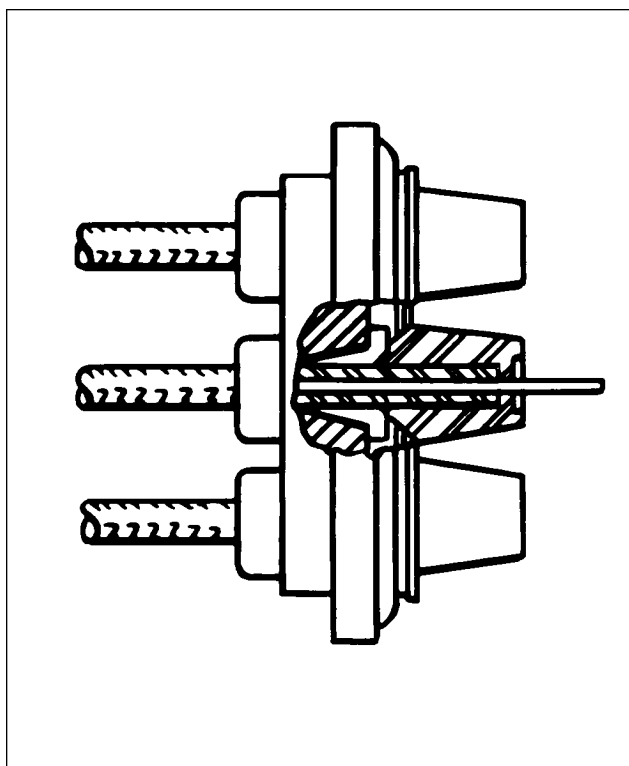
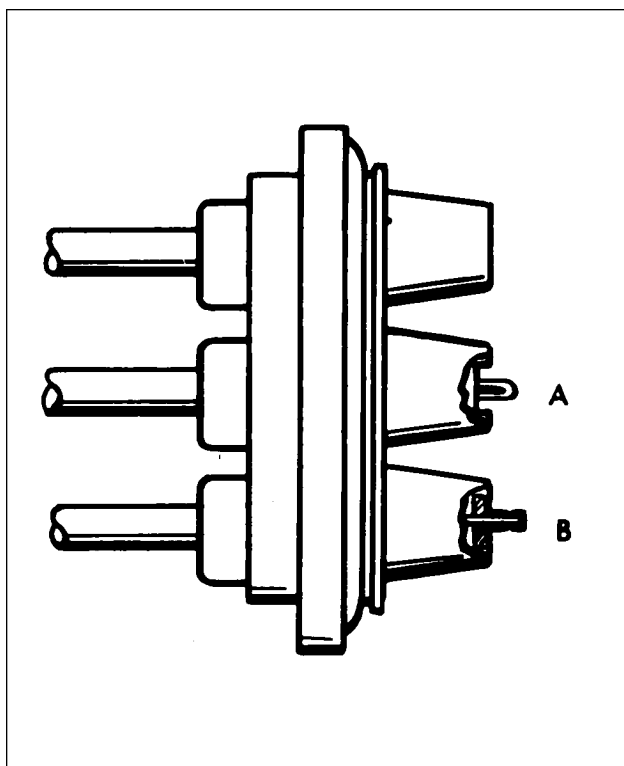

Figure 74-19. Lead Assembly Installed in Grommet
Figure 74-20. Wire Doubled Over For Installation of Eyelet
- O. Cut the wire 3/8 inch from the top of the grommet outlet. (See Figure 74-19.) Double the wire over as shown in A of Figure 74-20. Slide the eyelet over the doubled wire until it is firmly seated in the recess of the grommet outlet.
- P. Using a suitable crimping tool or equivalent, crimp the eyelet to the wire. Approximately 1/32 inch of wire should extend from the end of the eyelet after crimping. See B of Figure 74-20.